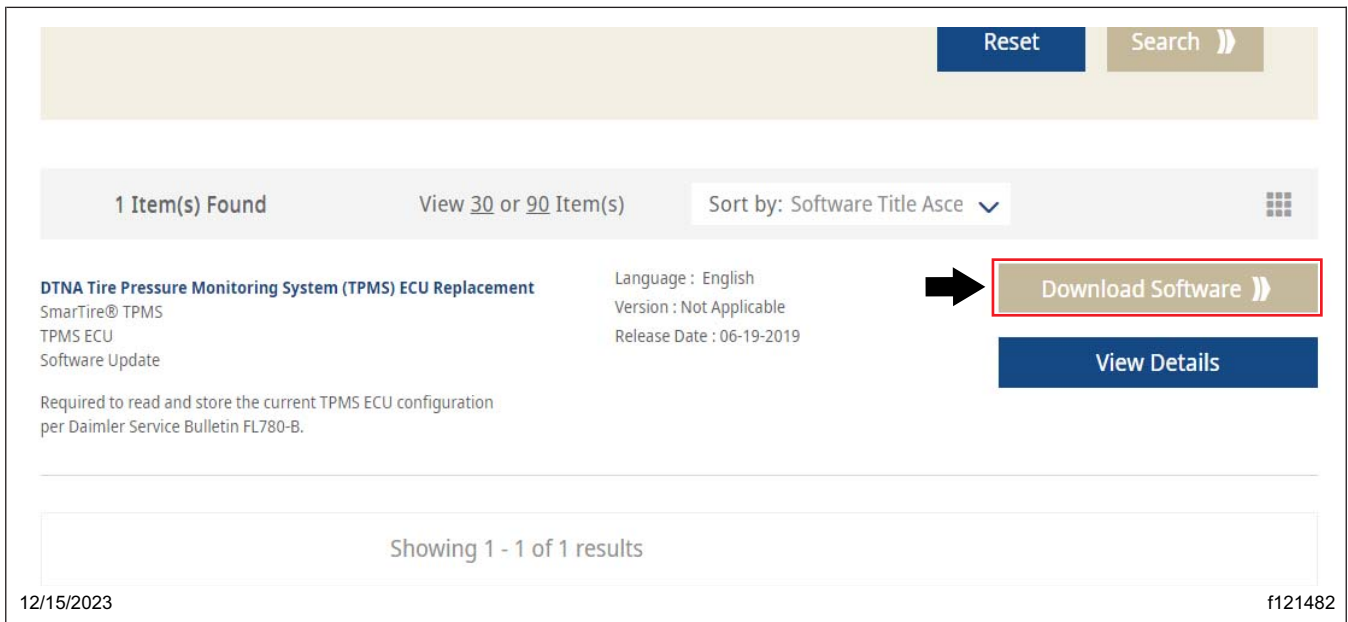

Fig. 14, Software Listed in the Search Results
1.3 'DTNA Tire Pressure Monitoring System (TPMS) ECU Replacement' should now be available for download. Select 'Download Software' on the right-hand side of the screen. See Fig. 14.